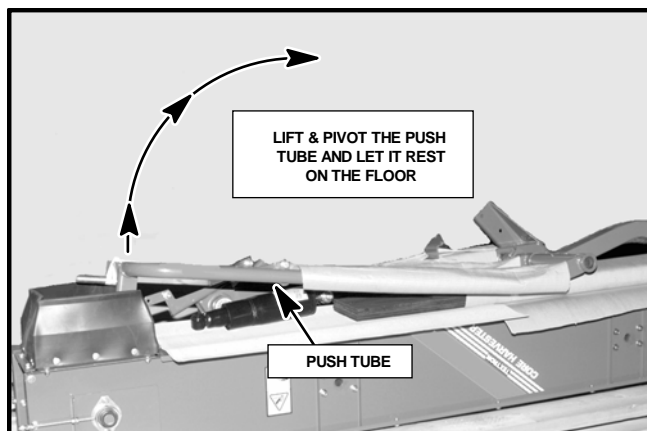

Figure 2
1. Remove the banding strap used to secure the elevator and loose parts to the pallet. Remove all loose parts and boxes, except the elevator assembly, from the shipping pallet. Remove any banding straps securing the push tube assembly to the elevator (See Fig. 2).